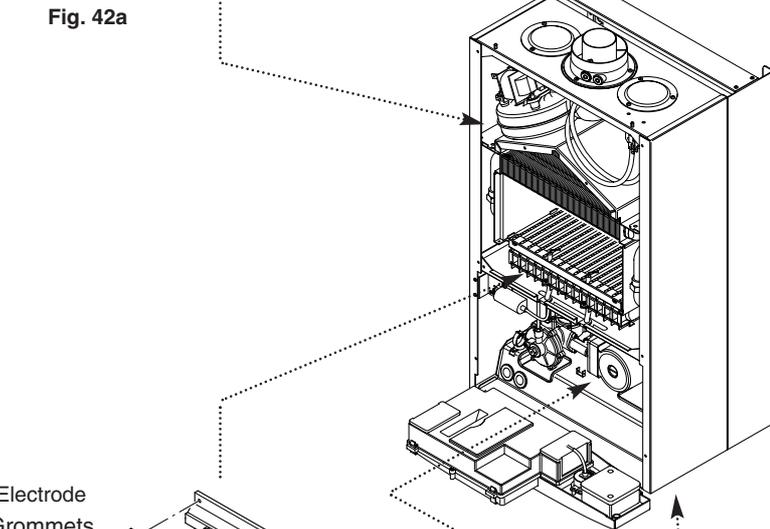

Fig. 42a
11. Undo the screws securing the fan and hood to the appliance back panel. Draw the assembly forwards (Fig. 42a).